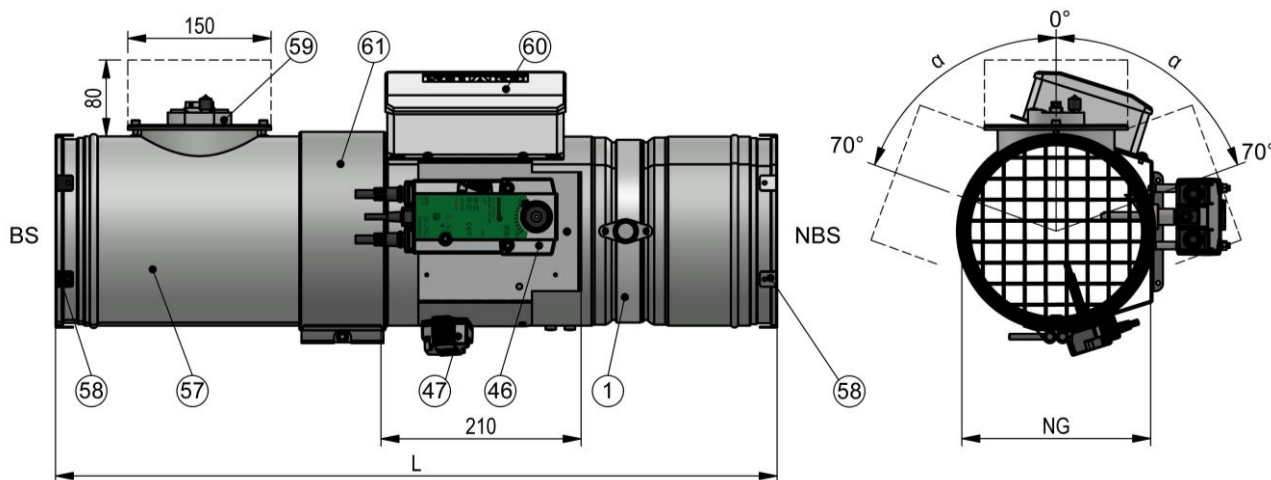
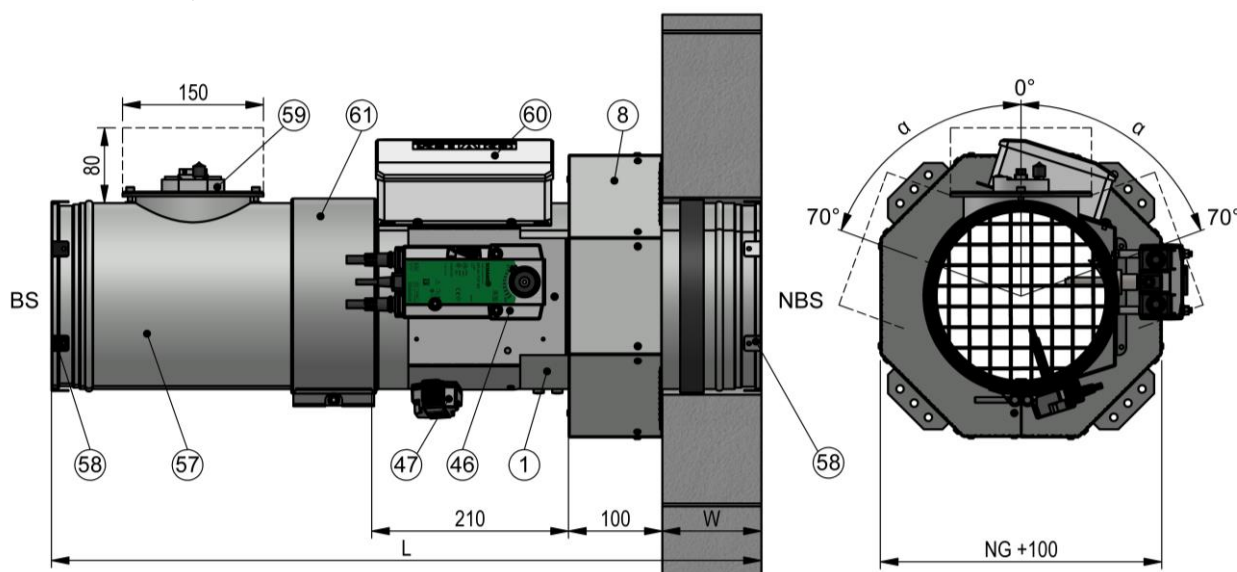

Figure 106: BKRUE
Figure 107: BKRUE with mounting frame AR
In tight installation situations (near the ceiling, when using the installation kit type GDL, etc.), the REBT incl. smoke detector RMSII-L can be rotated up to 70° in both directions (see Figure 106 or Figure 107).
- 59 Smoke detector RMSII-L (standard positioning in the specified position 0° (see Figure 106 or Figure 107) on the operating side. For installation in the immediate area of the ceiling, the RMSII-L can be positioned by rotating the REBT on site within the specified range (see Figure 106 or Figure 107, up to 70° in both directions). The connecting cable with protective sheathing between smoke detector RMSII-L and relay module RM is pluggable.